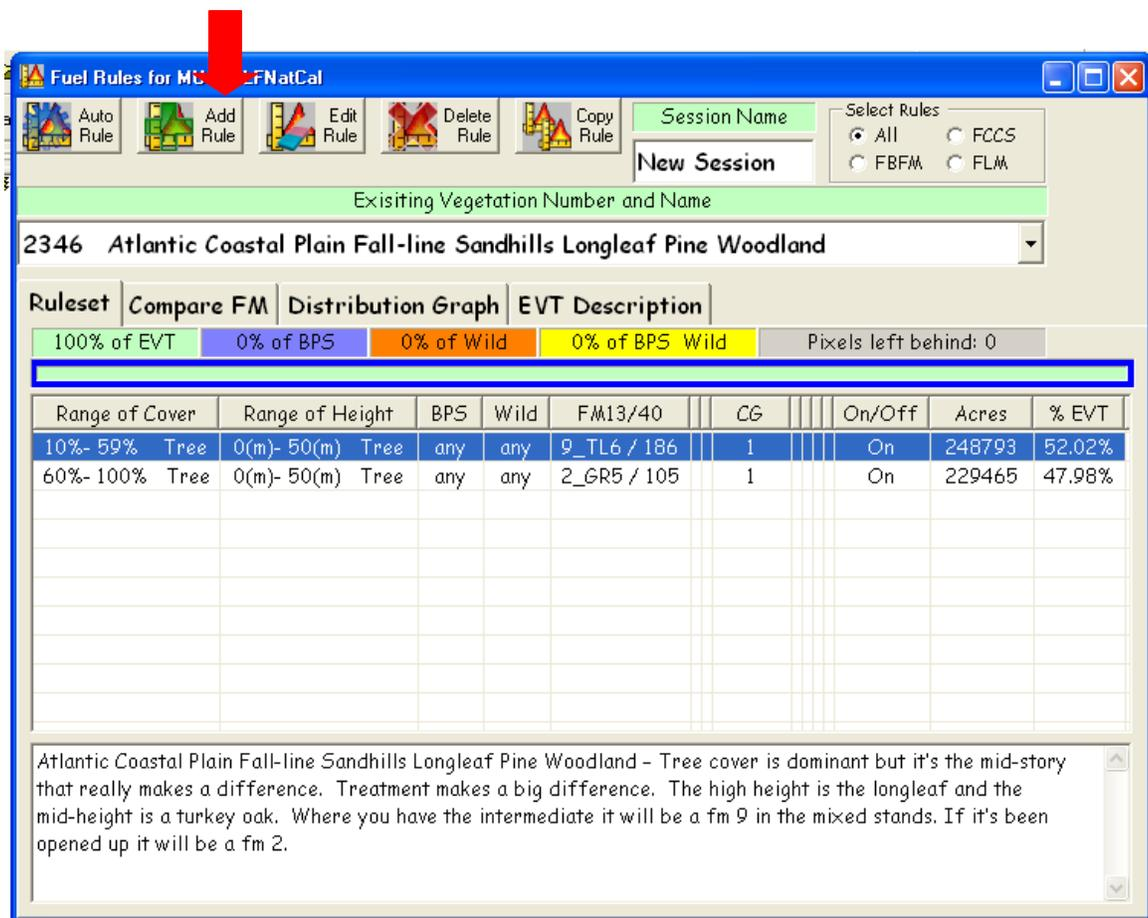

Figure 6-14. Select the **Add Rule** icon on the **FUEL Rules** page to create your own rules.
- To create new rules click the **Add Rule** icon on the **Fuel Rules** page (fig. 6-14).